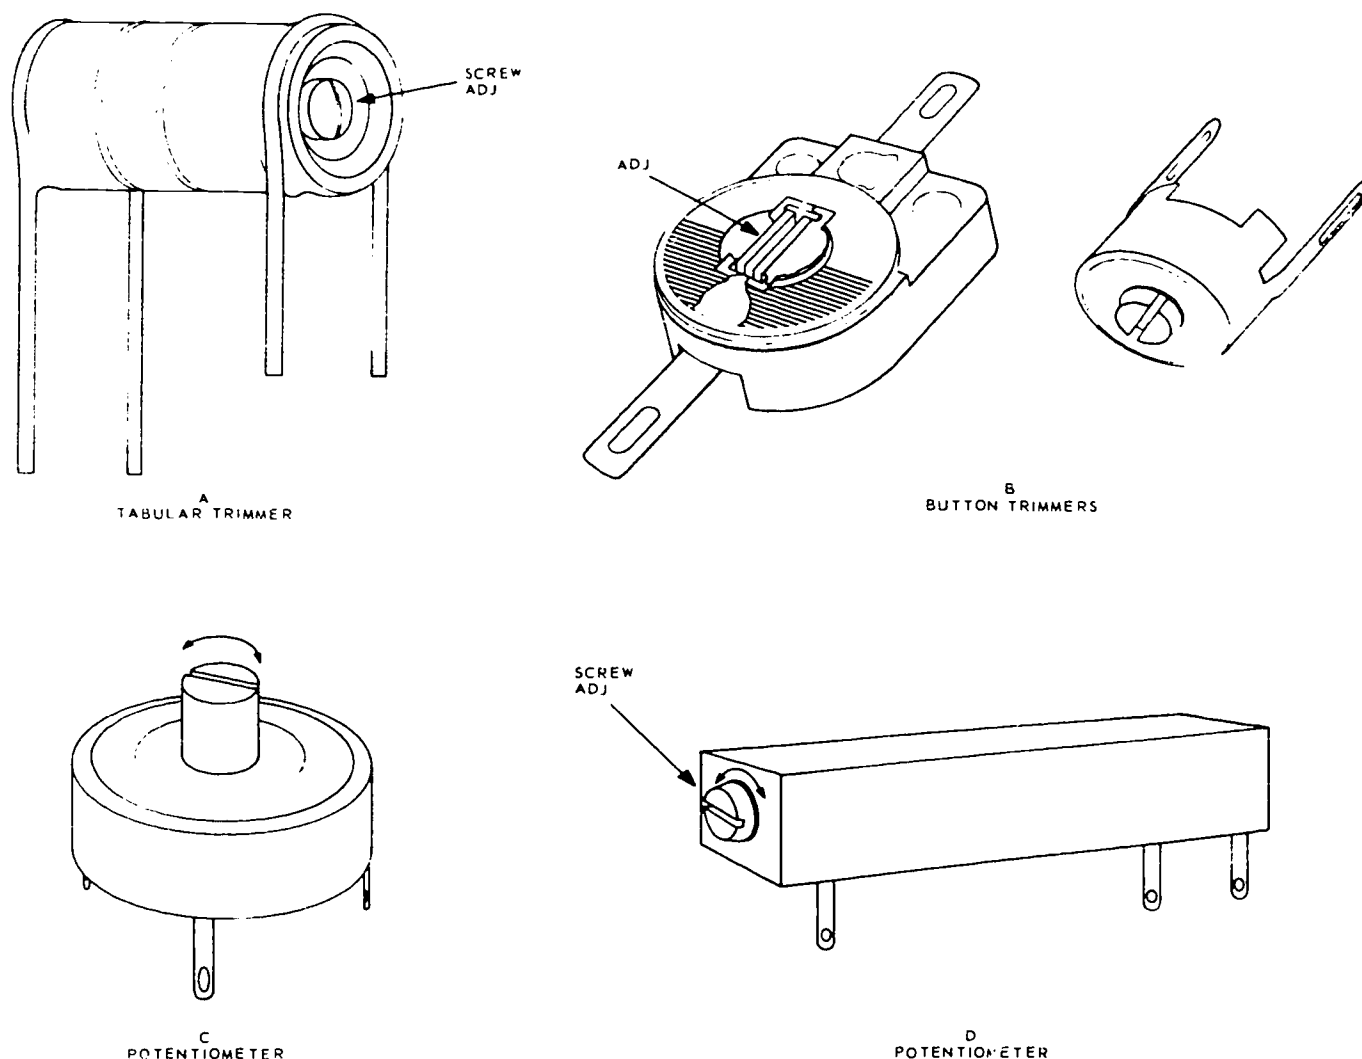

Figure 2-25. Variable components.
Variable Control Types. Study figure 2-25. Each component shown is a variable control, even though physical appearances vary. Two common types of *variable capacitors* are the tubular type (A) with an adjustable core and the button type (B) with a variable rotor. In either case, different values of capacitance are obtained by varying overcoupling of the plates. For most frequencies up to 30 MHz, these are adequate. For frequencies above 30 MHz, the variable capacitor must be so constructed that no RF voltage is developed. This is often done by having the external circuit connected to two sets of stator plates and using the rotor to increase or decrease the total capacitance between the plates. In this arrangement, no RF current flows, since the rotor is not a link between the stator plates. Figure 2-25,C, shows a typical
potentiometer. This control uses a rotor; however, the rotor is in contact with the resistive element. The output voltage or current is tapped off at the point of contact. Figure 2-25,D, is an example of a potentiometer commonly found on printed circuit cards. Its control is a screw-type shaft which, when turned, causes a contact point on the screw to mate with the resistive element. This provides an output voltage or current proportional to its wiper arm position. The control shown usually has from 8 to 26 full turns.